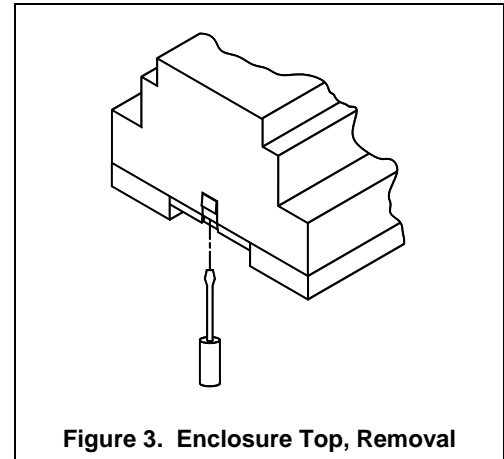

Figure 3. Enclosure Top, Removal
2. Open the enclosure by inserting a flat blade screwdriver under the retaining tabs in the base. See Figure 3.
1. Open the enclosure by inserting a flat blade screwdriver under the retaining tabs in the base. See Figure 3